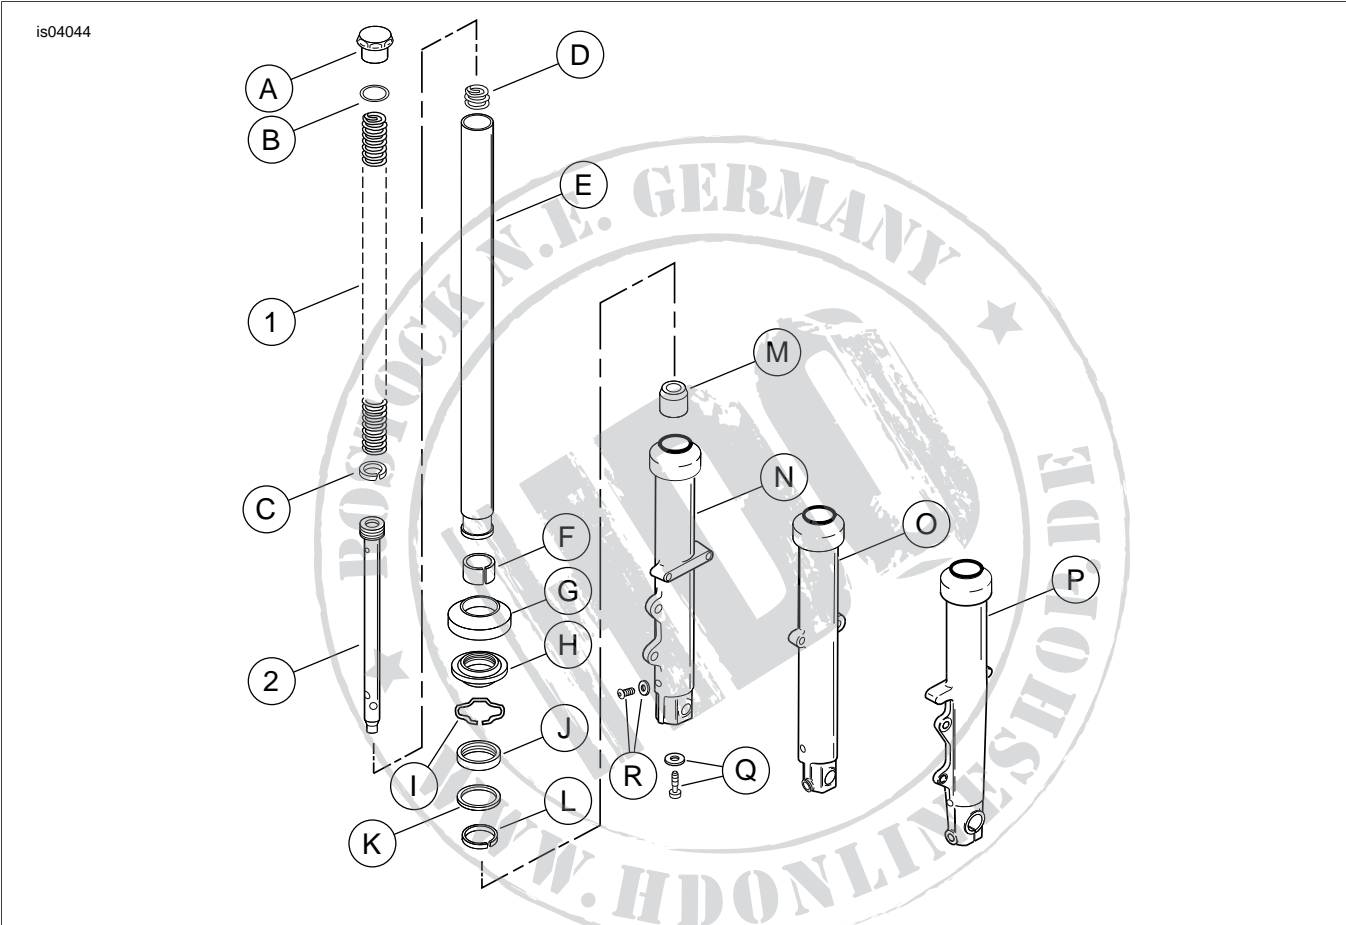

Figure 8. Service Parts for XL Front End Lowering Kit (45500-09)
See Figure 8 and Table 1.
2. See Figure 8. Place a drain pan under fork and remove drain screw (R).
4. See Figure 8. Remove the fork spring (1) from the fork tube.
5. Remove cover (G) and dust seal (H).
6. Compress internal circle clip (I). Remove clip from groove in top of slider bore.
9. Put a shop rag on the floor. Turn the fork assembly upside down and press the end of the spring against the rag. Compress the spring and remove the 6 mm screw and washer (Q) from end of fork slider (N, O or P). Use air impact wrench for best results. Discard 6 mm screw (S) and copper crush washer (R).
10. Remove fork spring (1) and damper tube (2) from fork tube. Discard fork spring.
11. Withdraw slider tube (E) from slider (N, O or P) until lower bushing (F) on slider tube contacts upper bushing (L) in slider. Use lower bushing in a slide hammer motion to gently tap out oil seal, spacer and upper bushing from slider bore.
12. Remove lower stop (M). The lower stop is in the slider (N, O or P) or on the bottom end of the damper tube (2).
14. Remove rebound spring (D) from damper tube. Discard damper tube.
1. See Figure 8. Install new lower bushing (F) in groove of slider tube (E). Expand bushing only wide enough to fit over the tube.
2. Place rebound spring (D) over damper tube. Verify that the damper tube ring (C) is installed in groove at top of new damper tube. Insert damper tube into slider tube (E).
3. Insert new spring (1) into slider tube (E) with the dense coil end down. Push damper tube (2) through opening at the bottom of the tube using the spring. Place the lower stop (M) over the end of the damper tube.
5. Install the screw and washer (Q) into the bottom of the slider (N, O or P). Move the slider tube through its full range of travel within the slider several times to verify proper component alignment. Then, applying downward force on the spring and tighten the screw. Tighten screw to 11-18 ft-lb (15-25 Nm).
6. Place the upper bushing (L), spacer (K) (concave side down), oil seal (J) (lettering side up), and FORK SEAL AND BUSHING INSTALLATION TOOL (Part Number HD-36583) over slider.
8. See Figure 8. Install internal circle clip (I) into groove in top of the slider bore.
9. Install dust seal (H) and cover (G) at the top of the slider.
10. Install drain screw (R) into the lower end of the slider. Tighten the screw to 72-96 **in-lb** (8-11 Nm).
11. Remove main spring (1) from slider tube (E).